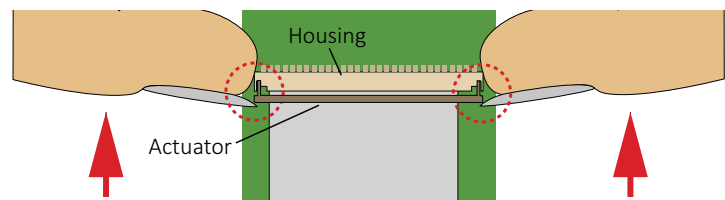

Figure 13: Closing the 22-pin FFC connector on SoMs
- Carefully slide the actuator back to closed position (see Figure 13).